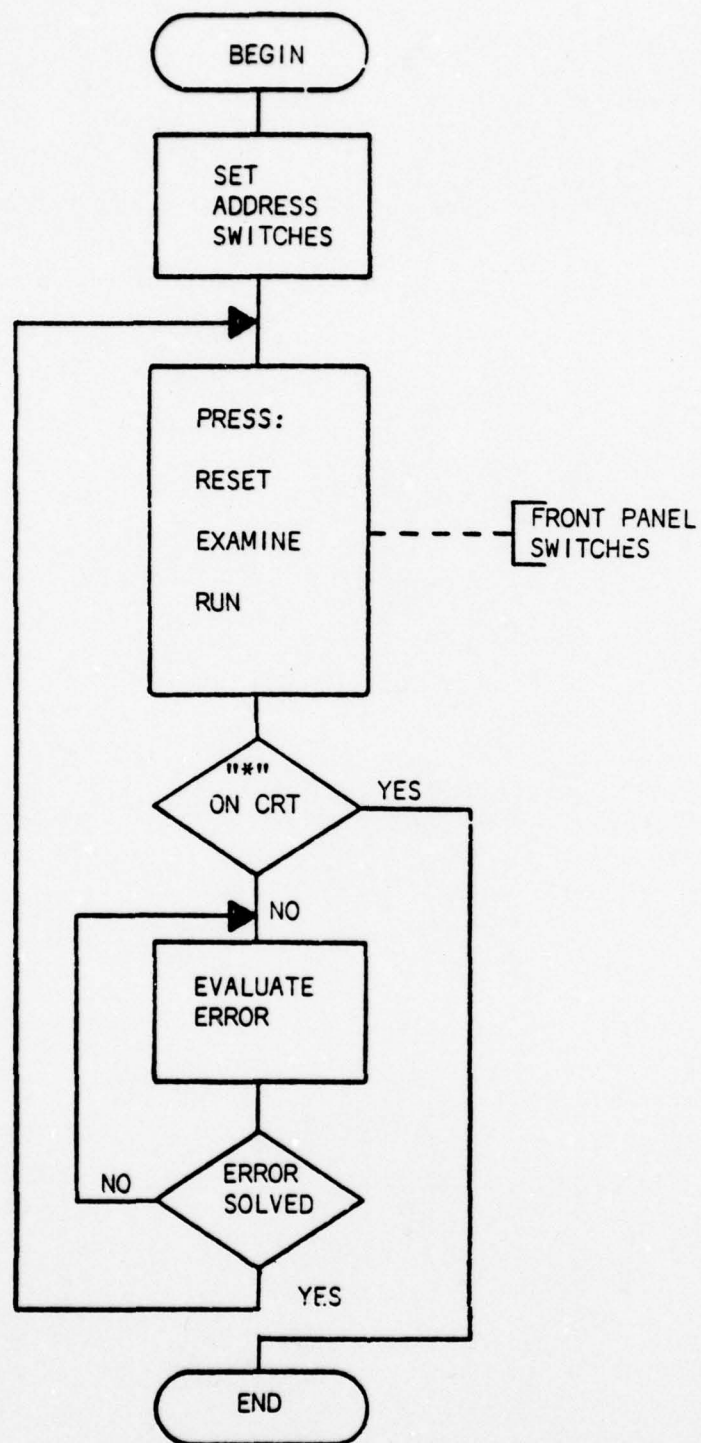

Figure 2-2 DOSCYB Initialization Flowchart
2.2.1 DOSCYB Initialization. Once the hardware is initialized and the Altair computer system has been successfully powered (see Section 2.1 for hardware initialization), the following procedures (see Figure 2-2) should be followed to initialize the DOSCYB system program (all referenced switches are on the Altair front panel):